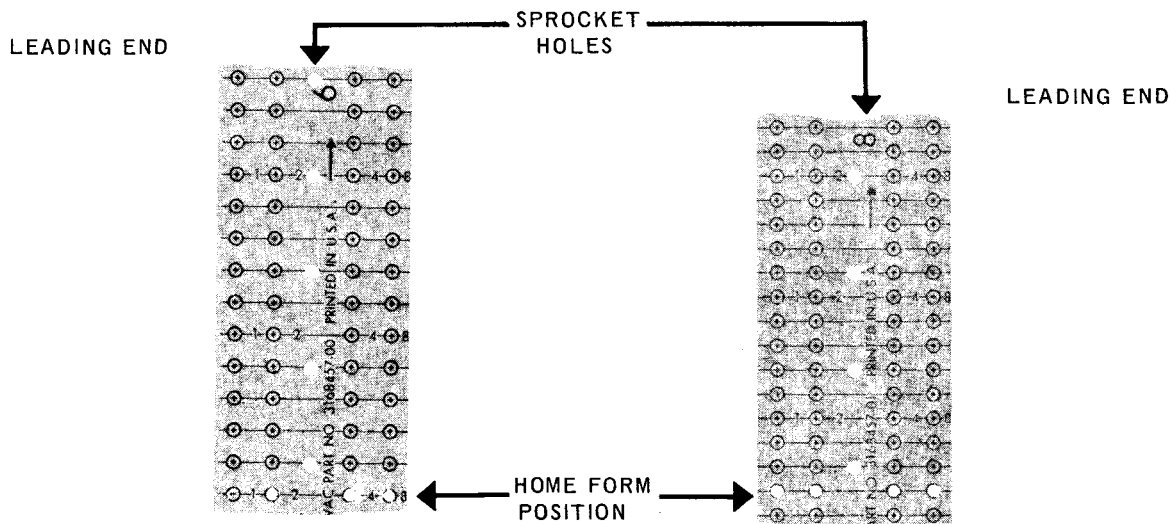
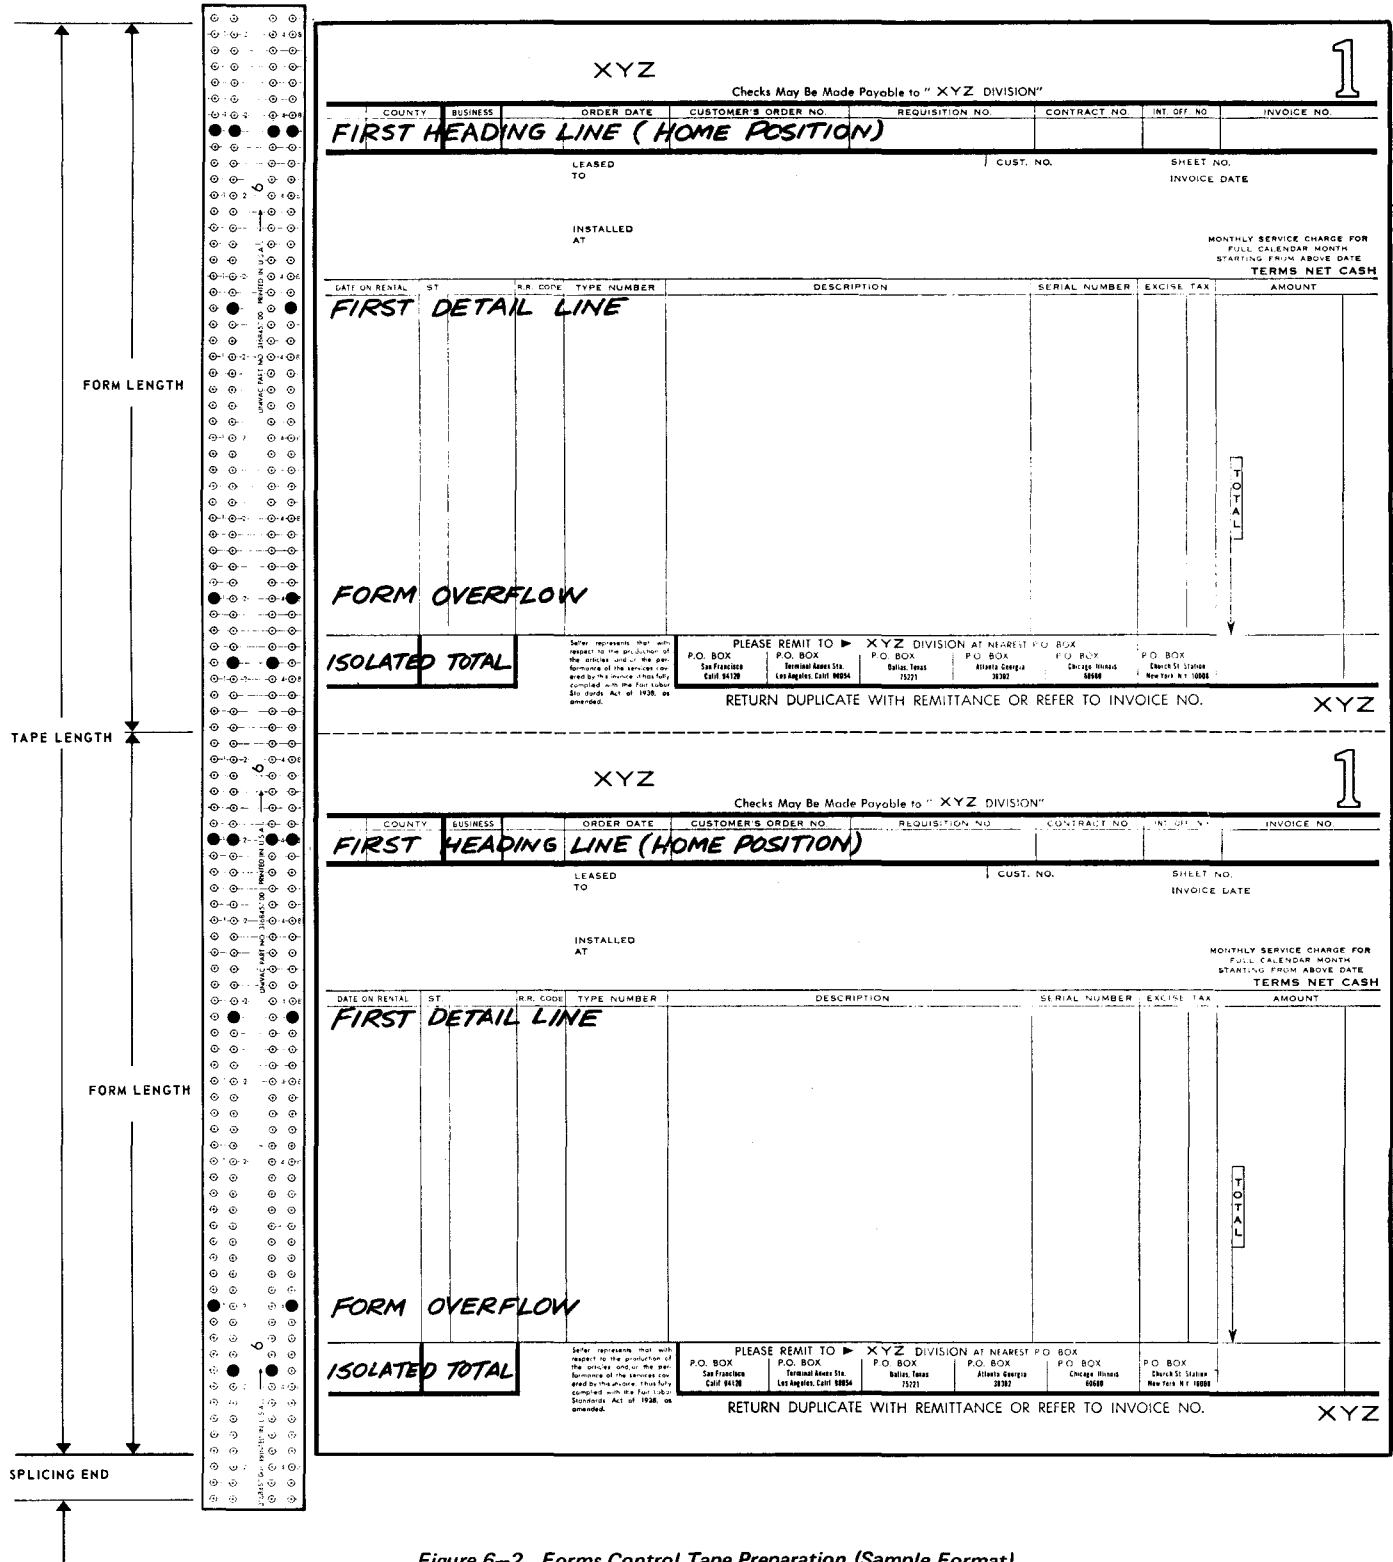

Figure 6-1. Forms Control Tapes
Figure 6-2. Forms Control Tape Preparation (Sample Format)
The length of the forms control tape is between 10 and 22 inches, and is equal to the form length or to a multiple of form length. Figure 6-1 illustrates sections of a 6 LPI and an 8 LPI forms control tape loop. Channel 1 is on the left side of the tape and channel 4 is on the right side. The evenly spaced perforations running vertically in the center of the tape are sprocket holes that ensure proper tape feeding and alignment. The arrow printed on the tape indicates the direction the tape travels when it is installed. Also, four columns of small circles are printed on the tape as an aid to perforation. The cross in the center of each of these circles assists in centering the perforations. The numbers (1, 2, 4, and 8) to the right of each track designate the channel code position to which each is related. The codes are listed in Table 6-3.
- (1) Spread the form (or actual size facsimile) on a flat surface.
- (2) Cut the leading end of the tape (Figure 6-1) so that the end is about 1/4 inch above a sprocket hole:
- (3) Spread tape down full length of form; align first sprocket hole in leading end with top of form and mark trailing end horizontally through a sprocket hole to indicate the tape length that is required.
- (4) Cut tape horizontally through first sprocket hole below mark made in step (3).
- (5) Mark tape with circles for desired skip codes. All codes must be punched on the line corresponding to pertinent print line of associated form. When one tape is to accommodate several form lengths, all codes are usually duplicated in each section (corresponding to each form length) of the tape. (See Figure 6-2.)
- (6) Hold tape punch (supplied by Univac) with die side up so that circles to be punched are visible in punch opening; insert tape and punch out each marked circle.
- (7) Spread small quantity of cement between mark made in step (3) and trailing end of tape.
- (8) Bring leading end of tape over so that its underside overlaps the splicing end and forms a loop, and sprocket holes at top and bottom of splice are aligned.
- (9) Press entire splice, and allow cement to dry.
- (10) Inspect splice to ensure that all punch codes and sprocket holes are through both layers. If they are not, punch through second layer, using holes in first layer as guide.